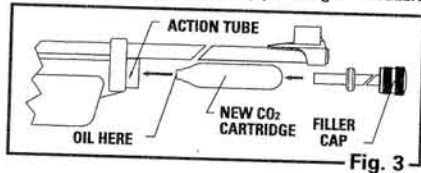

Fig. 3
- Insert the new CO2 cartridge into the action tube first. (Fig. 3)
- Your air rifle will work best if you oil it every 250 shots. Put a drop of Crosman 0241 Lubricating Oil directly on the tip of a CO2 cartridge before inserting and on the o-ring located on the bolt. (See Fig. 3 & 4) A light coat of Crosman 0241 Lubricating Oil on all exposed metal parts helps prevent rust. DO NOT use a petroleum distillate based oil or solvent and do not over-oil as this can cause damage to your air rifle.